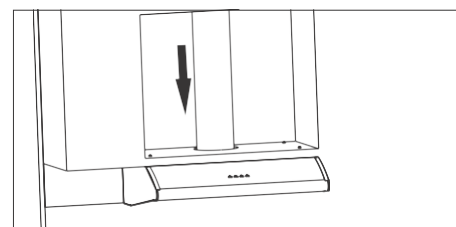

Fig. 16
6. Perform the flexible flue connection of your appliance (Fig. 16).